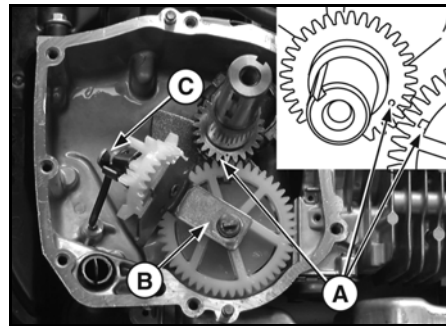

Figure 7
- On vertical crankshaft engines, assemble governor gear/oil slinger (B, Figures 7 and 8) to camshaft. Make sure the paddle on the governor shaft is contacting the governor cup (C).